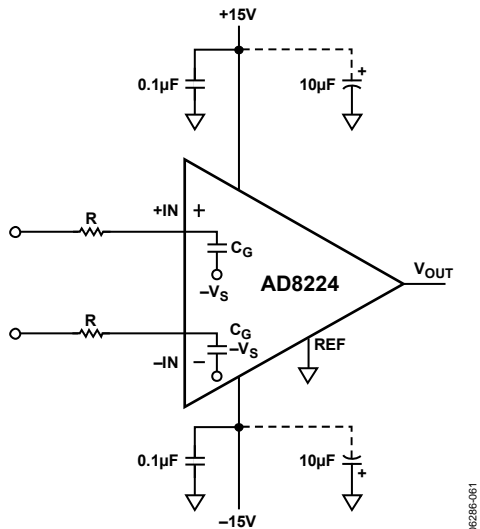

Figure 61. RFI Filtering Without External Capacitors
RF rectification is often a problem in applications where there are large RF signals. The problem appears as a small dc offset voltage. The AD8224 by its nature has a 5 pF gate capacitance (CG) at its inputs. Matched series resistors form a natural low-pass filter that reduces rectification at high frequency (see Figure 61).